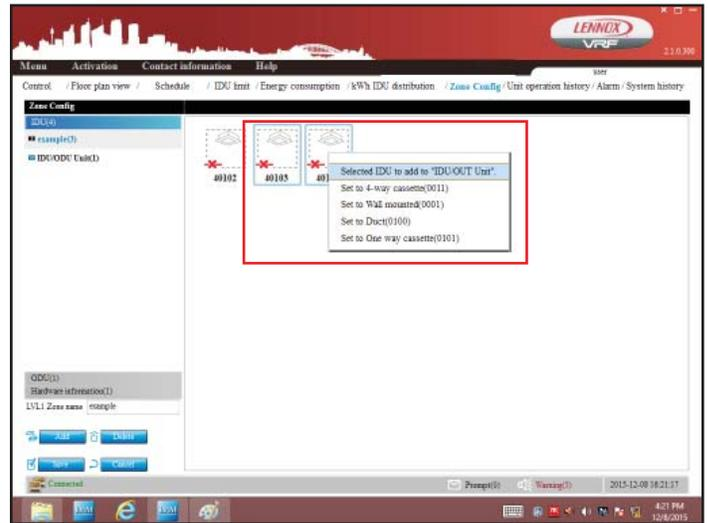

Figure 53. Save the Indoor Units
3. Tap Selected IDU to add to "IDU/OUT Unit" to unassign the indoor units and make them available again on the IDU/ODU Unit tab. See figure 53.